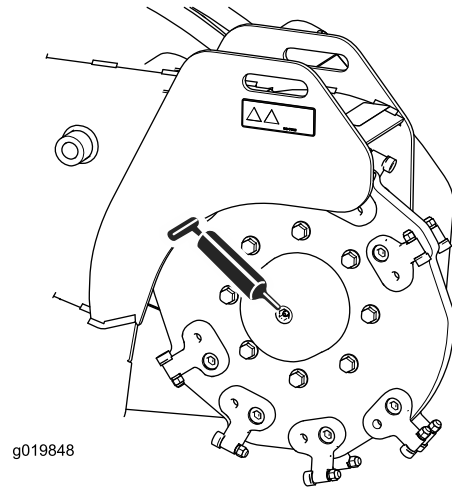
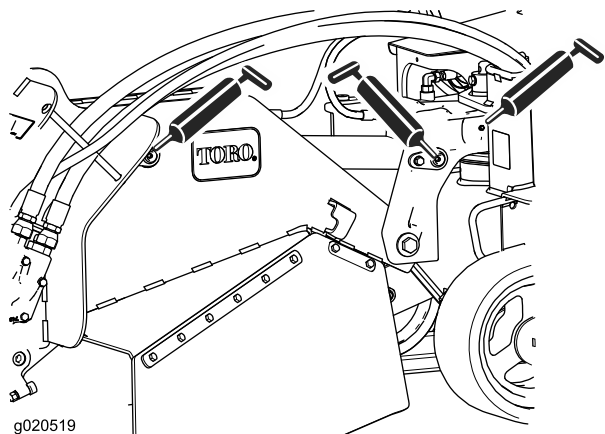

Figure 27
Figure 29
4. Connect a grease gun to each fitting (Figure 27 through Figure 29).